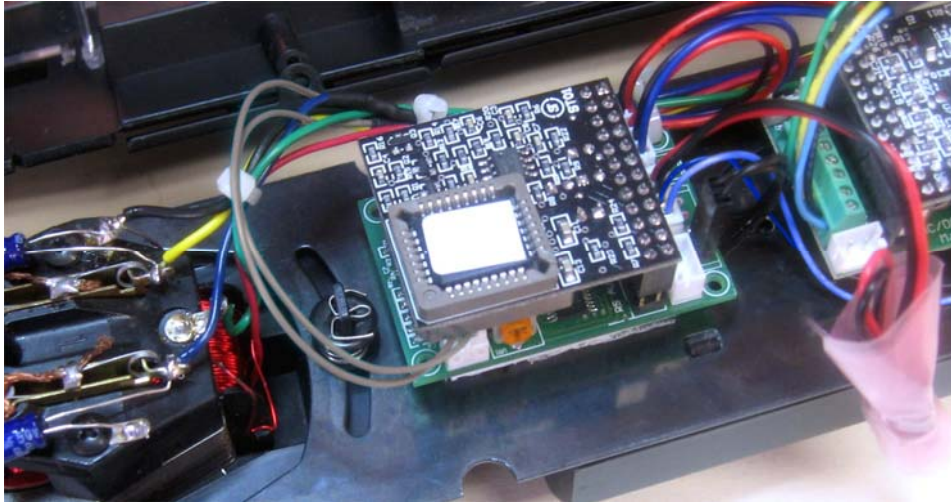

Figure 12 – Railsounds Audio board installed
1. Locate the Railsounds Audio board and, while referring to Figure 12, gently place it on the double row of pins on the Railsounds Commander circuit board. Take care to ensure that the Railsounds Audio board is properly aligned with all the pins before pressing into place.